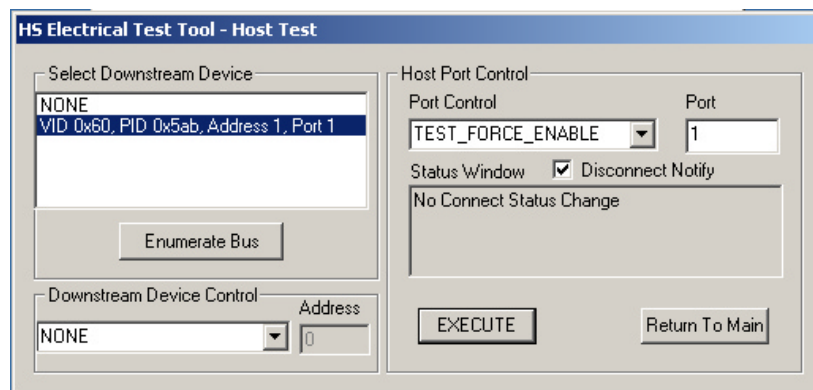

Figure 20. Status Window
5. Click the Disconnect Notify check box to monitor the disconnect status in the Status Window (Figure 20).